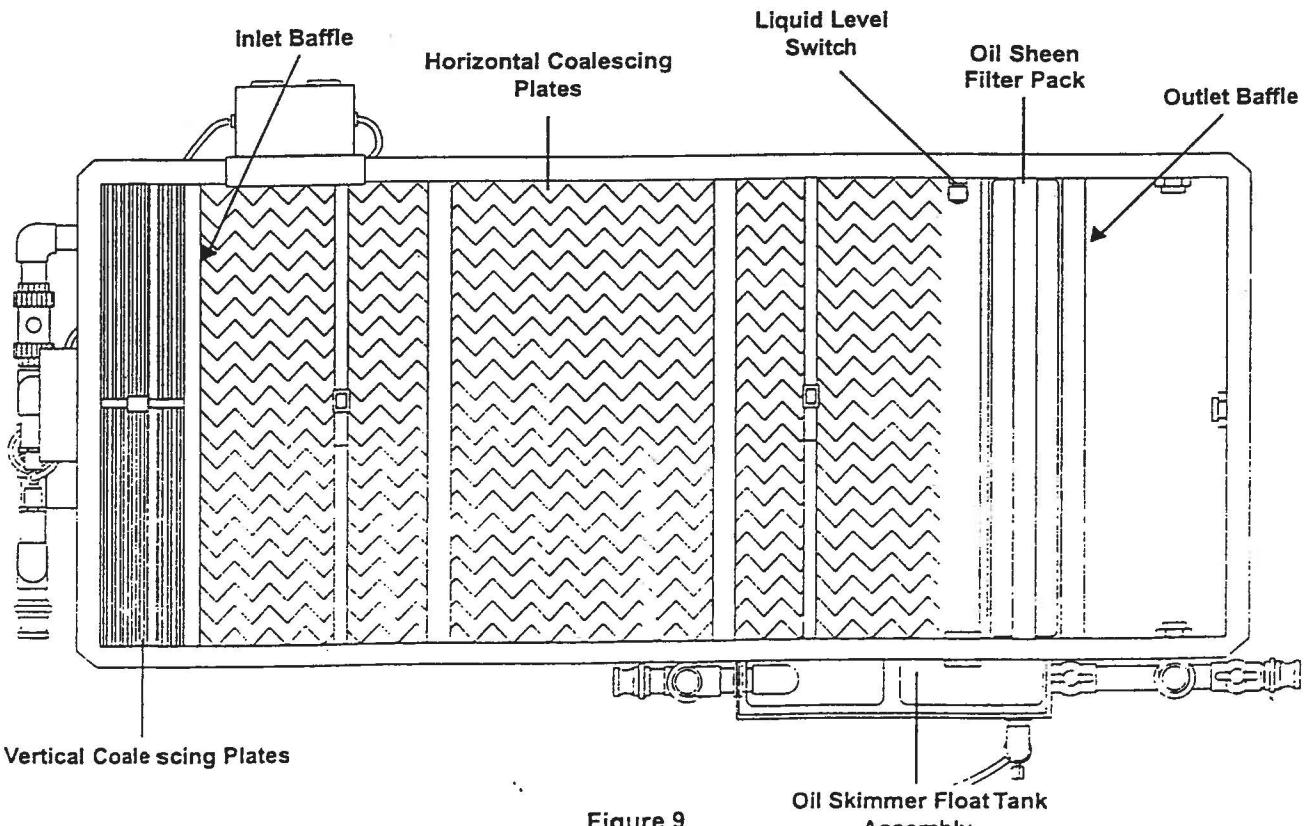

Figure 9
- ♦ Remove the filter pack (suitcase like filter, see Figure 9 for location) by removing the retaining bracket and lifting up with the handles on the filter, as shown below.